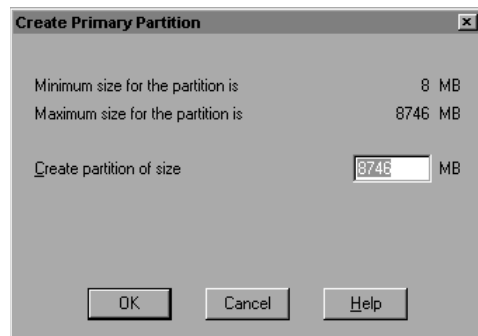

Figure 24. Create Primary Partition
- 5 From the Partition menu, choose Create. The Create Primary Partition dialog box appears (Figure 24).